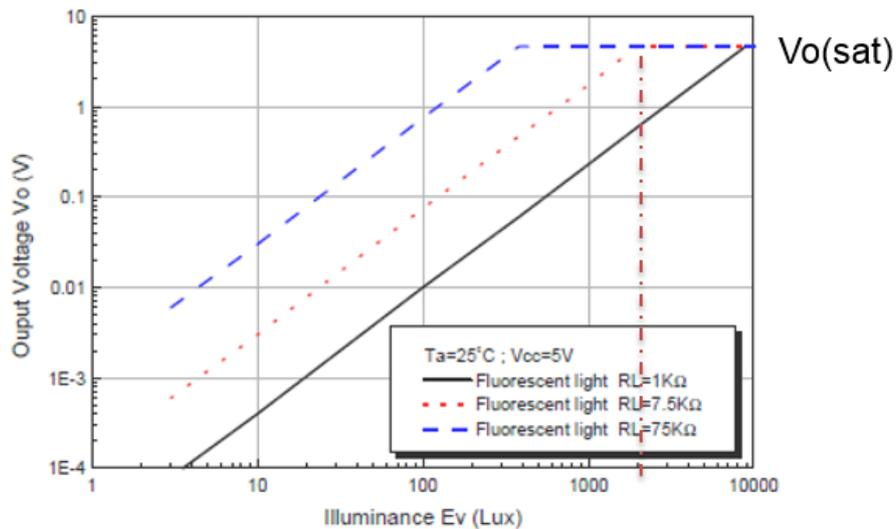

Figure 3 Light to electric convert graph
- Draw similar to figure 3 Vout V.S. Lux graph, so easier to find output voltage to correspond illuminance value.
Let  $R_L = 7.5k\Omega$  line from figure 3 as example, under 1100 lux is best to operate maximum ambient light. Please note that 0 Lux will have small output dark current to make minimum output voltage not equal to 0 volt, this dark current will increase as temperature increase, so illuminance is bit different when under 10 Lux (note5) and over  $60^\circ\text{C}$  verse when is  $25^\circ\text{C}$ . ALS saturation output voltage smaller than supply voltage  $V_{cc}$ .